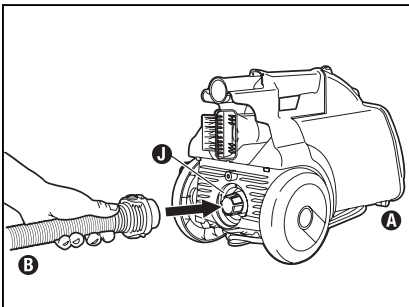

Fig. 9
Step 2: Detach hose **B** from front of canister **A** and attach to the blower port **V** on the back side of the canister (Fig. 9).